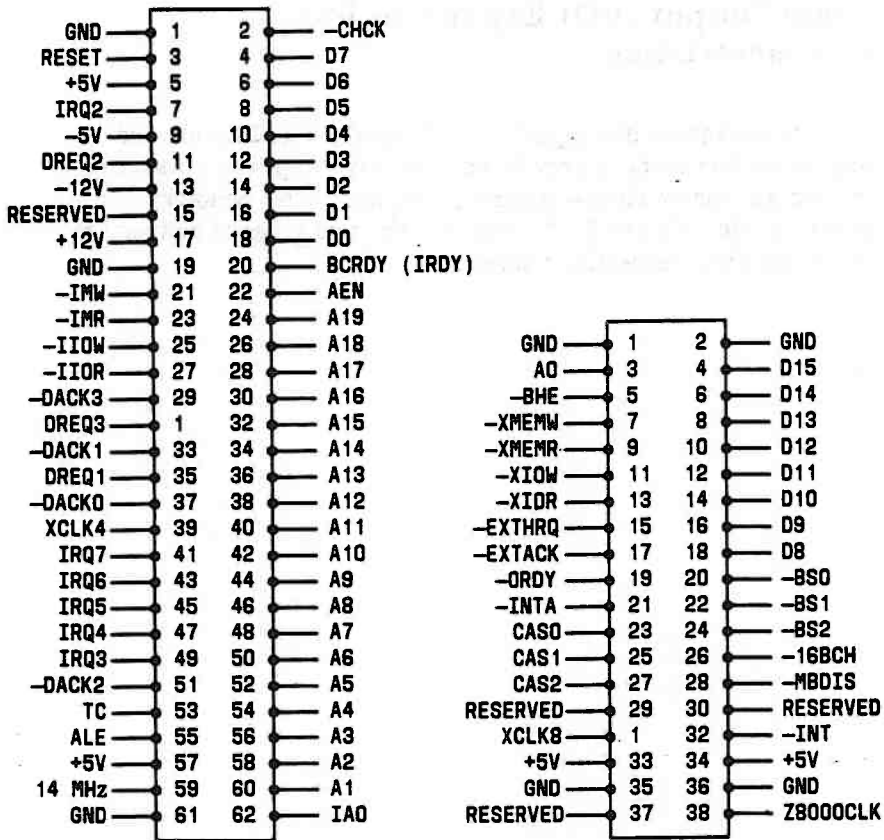

Figure 2-12. I/O Expansion Bus Connectors
All I/O expansion bus signals are at standard TTL levels and all expansion bus outputs provide enough drive to power all seven system expansion slots—assuming two low power Schottky (LS) loads per slot. Figure 2-12 illustrates the two types of connector slots and their respective names.